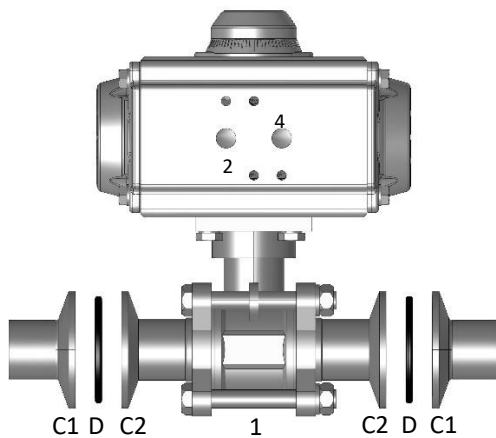

Figure 9: Positioning clamp ends
2. Align ball valve body **1** centrally between pipelines with clamps (**C1** and **C2**), see Figure 9.